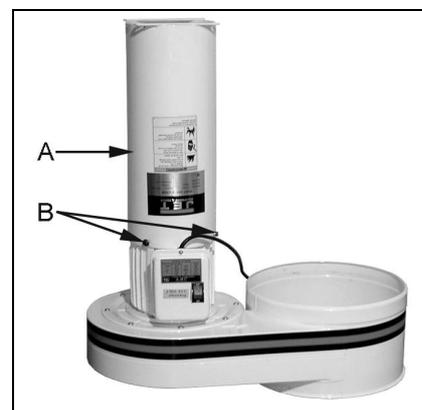

Fig 2
Attach support cylinder (A, Fig. 2) to the motor housing with three screws and washers (B).